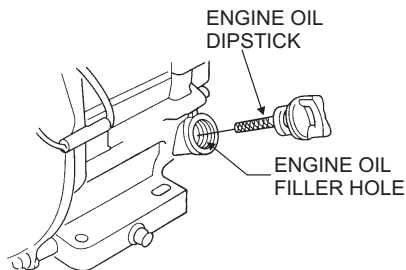

Figure 5. Oil Dipstick Removal
2. Pull out the dipstick from the oil tank (Figure 5).